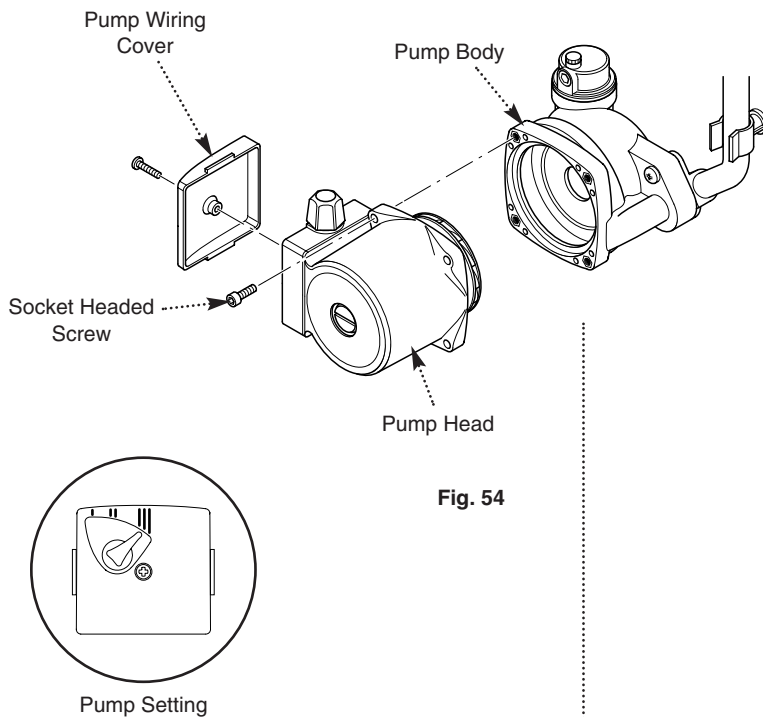

Fig. 55
3. A standard Grundfos replacement head can now be fitted. A Grundfos 15-50 head is suitable for the Combi 80e. The Combi 105e requires a 15-60 head. Connect the wiring to the new head. **The pump speed must be set to 3** (Fig. 55).